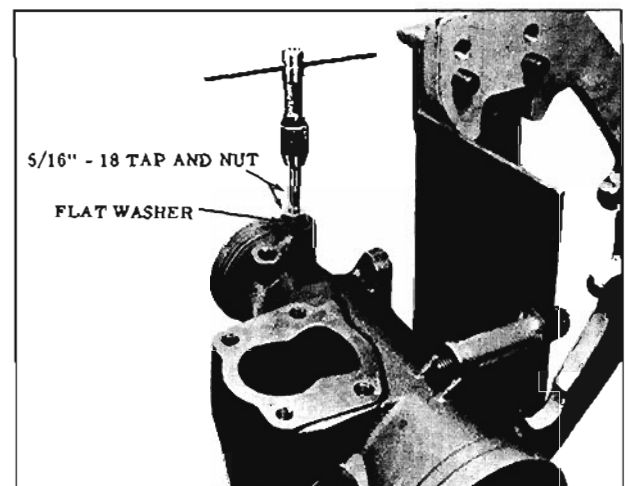

Fig. 8-66 Removing Connector Seal
3. With the steering gear in a vertical position, thread the tap into the connector seat not more than three turns. (Fig. 8-66)